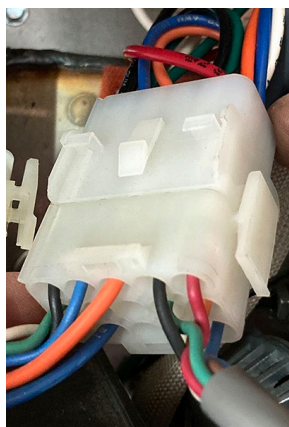

Figure 28
33. Connect the new 15-pin female connector from the intermediate harness and the male connector from the basket lift assembly (see Figure 28).